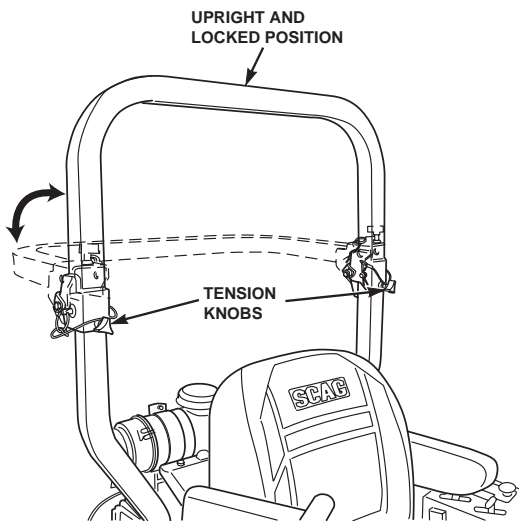

Figure 2-1. Foldable Roll-Over Protection System
1. To lower the roll bar, loosen the tension knob on both the left hand and right hand bar. See Figure 2-1.